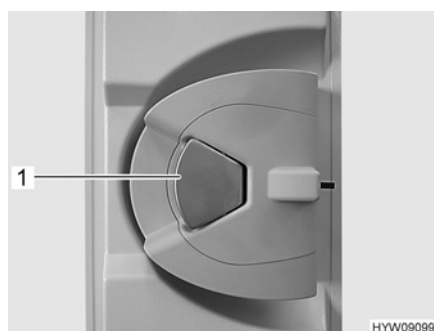

Fig. 18 Door lock (conversion door, inside)
Opening: ■ When the door lock is locked: Pull once at the door handle (Fig. 18,1). The door is unlocked.
■ Pull on the door handle (Fig. 18,1). The door is open.
Locking: ■ Push the door handle (Fig. 18,1) in.